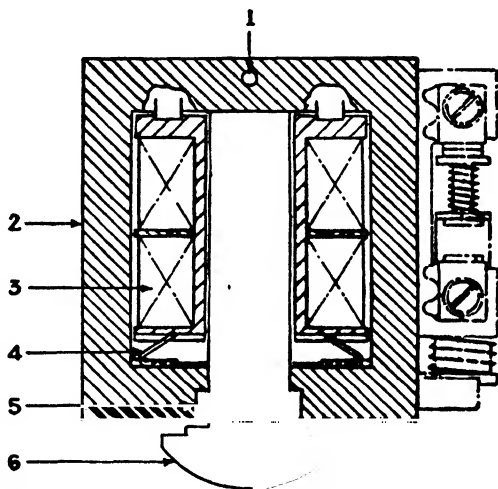

Fig. 40. Solenoid with Cutout Switch, Type CR-9503-209-C
*Assembling and Disassembling* (See Fig. 40). The solenoid consists of a frame 2, a plunger 6, a coil 3, two springs 4, two plunger guides 5, a cotter key 1, and, if required, a cutout switch. To disassemble, remove the plunger, cotter key, plunger guides, and coil springs, in the order named.
*Coils.* Fig. 40 shows the normal position of the solenoid. When installing the coil make sure the projections are on top. The projections are used for centering the coil.